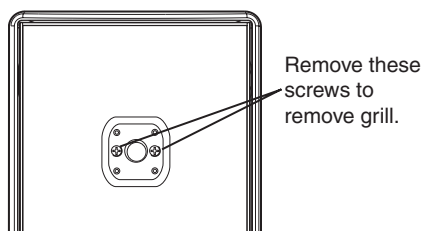

Figure 14 — Grill retaining screws under the Extron logo (shown with logo removed)
2. Remove the two small screws from the front grill (see figure 14 for location).